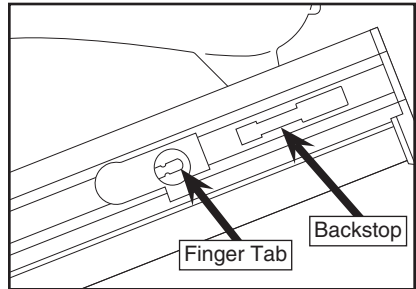

Figure 6. Finger tab and backstop.
2. Push the finger tab (**Figure 6**) inside the magazine pusher, pull the pusher back slightly to clear it of the nail stick. While pressing the finger tab, slide the pusher forward over the nails until it rests near the nose.
4. Depress the backstop (**Figure 6**) inside the magazine and slide the nail stick out of the magazine.